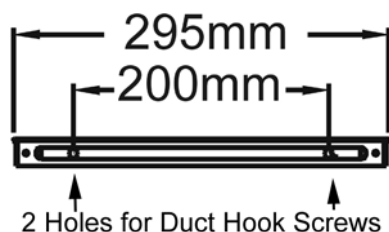

Figure 1c
4. Fix the flue (top section) bracket (see figure 1c below) into the correct position on the wall using the supplied self-tapping (nylon type) fixing screw sets.